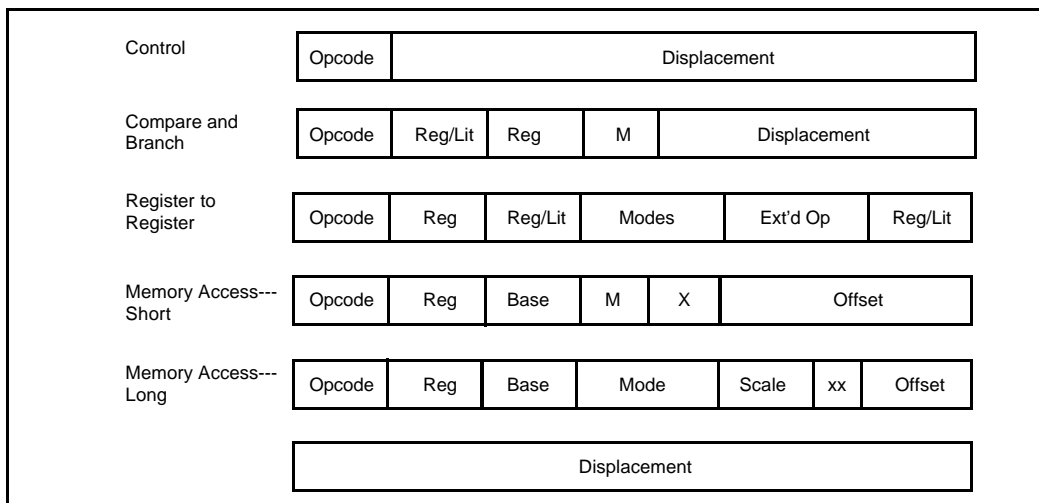

Figure 3. Instruction Formats
4. **Simple Instruction Formats.** All instructions in the 80960SA are 32 bits long and must be aligned on word boundaries. This alignment makes it possible to eliminate the instruction alignment stage in the pipeline. To simplify the instruction decoder, there are only five instruction formats; each instruction uses only one format. (See Figure 3.)